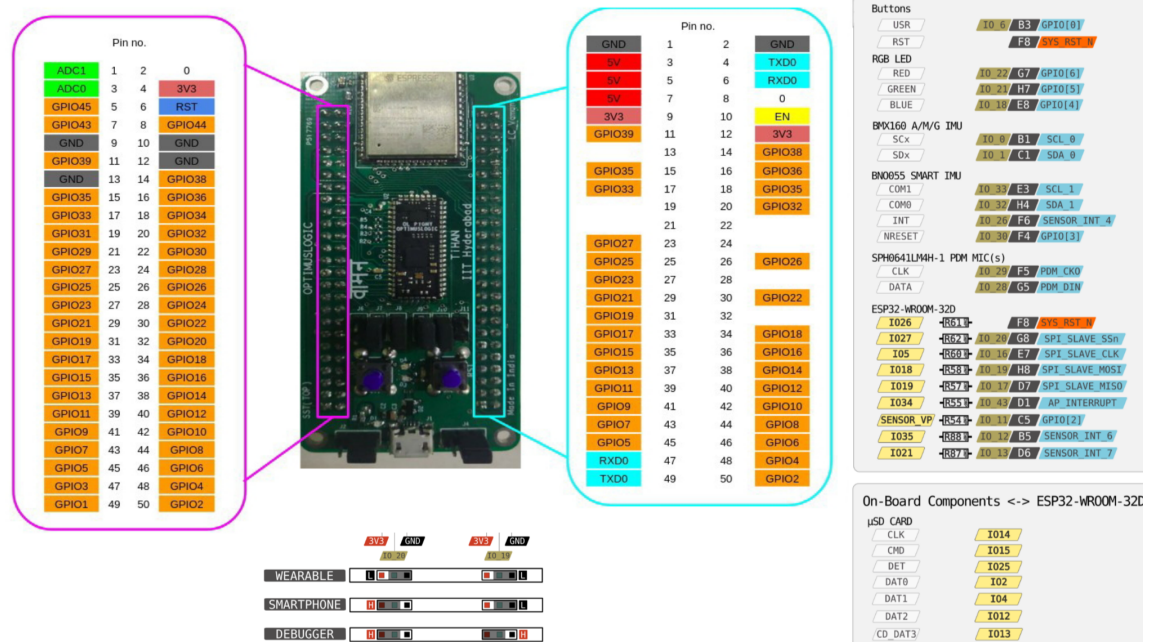

Figure 1.1.3.1: Vaman pins
1.1.3. The Vaman pin diagram is available in Fig. 1.1.3.1